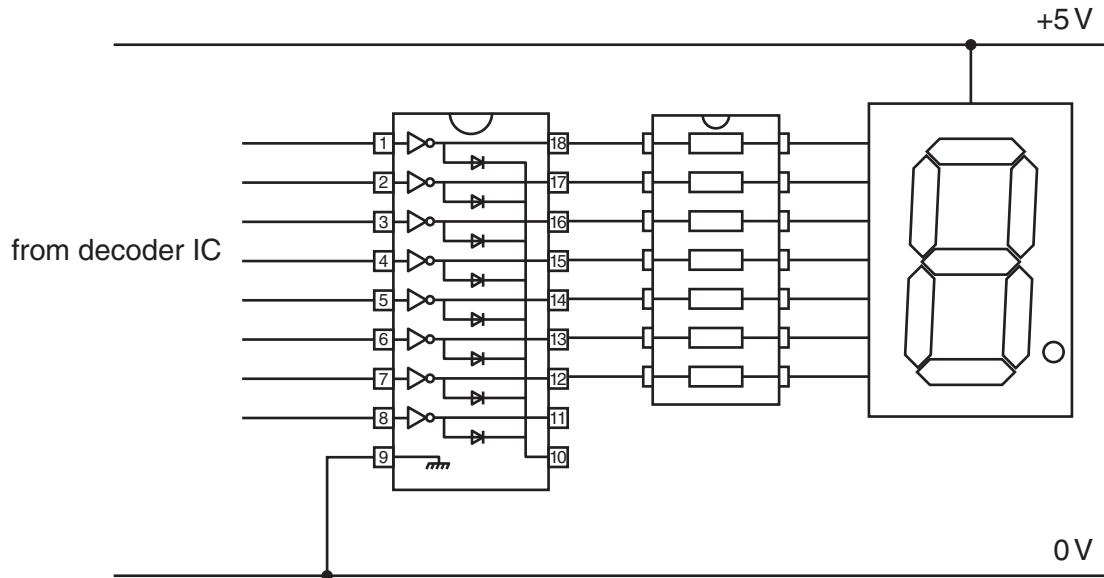

Fig. 6
(c) An improved version of the output part of the circuit is shown in Fig. 6.
- (i) The resistors shown in Fig. 6 are in a DIL resistor network.